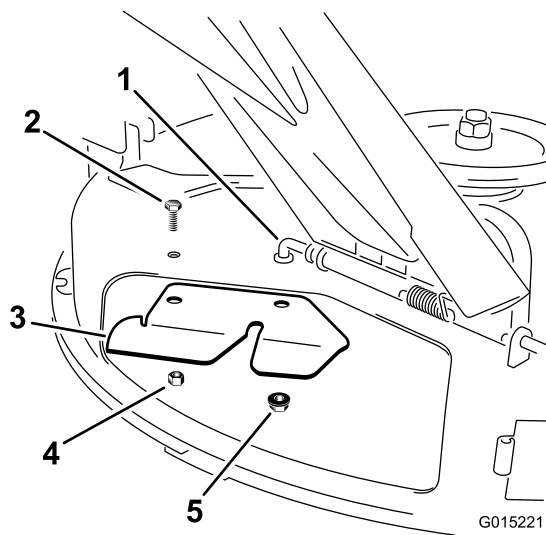

Figure 20
3. Install the bagger-cutoff baffle to the underside of the deck (Figure 20). Secure it with the fasteners removed previously.